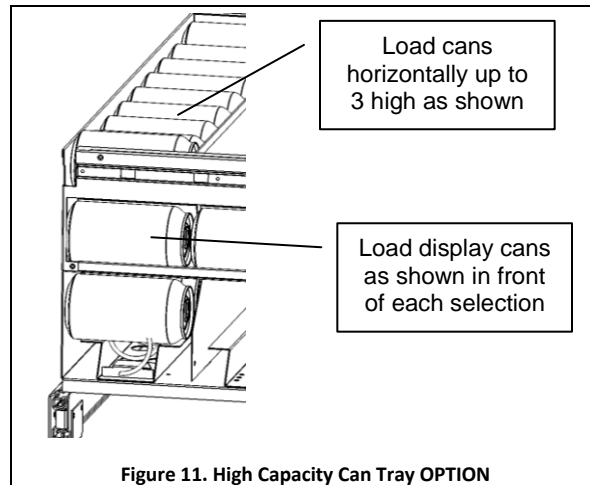

Figure 11. High Capacity Can Tray OPTION
Some vendors come equipped with the HCCT option. There is two setups for the HCCT option ... one for the vending 355ml (12oz.) and one for 375ml (13oz.) cans. The HCCT option is only provided for these two can sizes with identical diameters. Load product horizontally from front to rear and stack a maximum of three (3) levels high. See Figure 11.